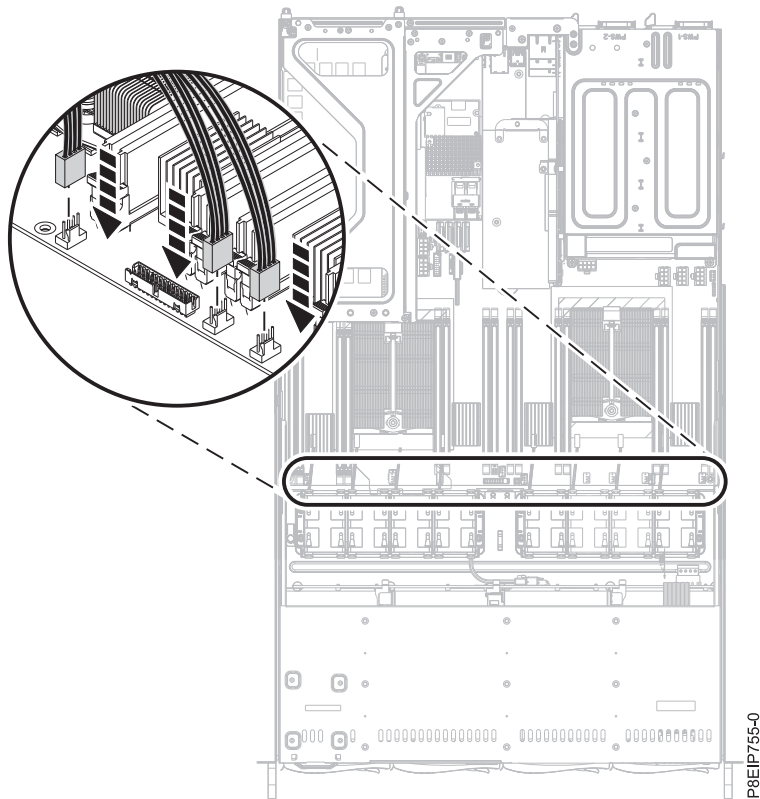

Figure 16. Connecting fan cables to the system backplane
4. Connect the fan cable to the system backplane, as shown in Figure 16.